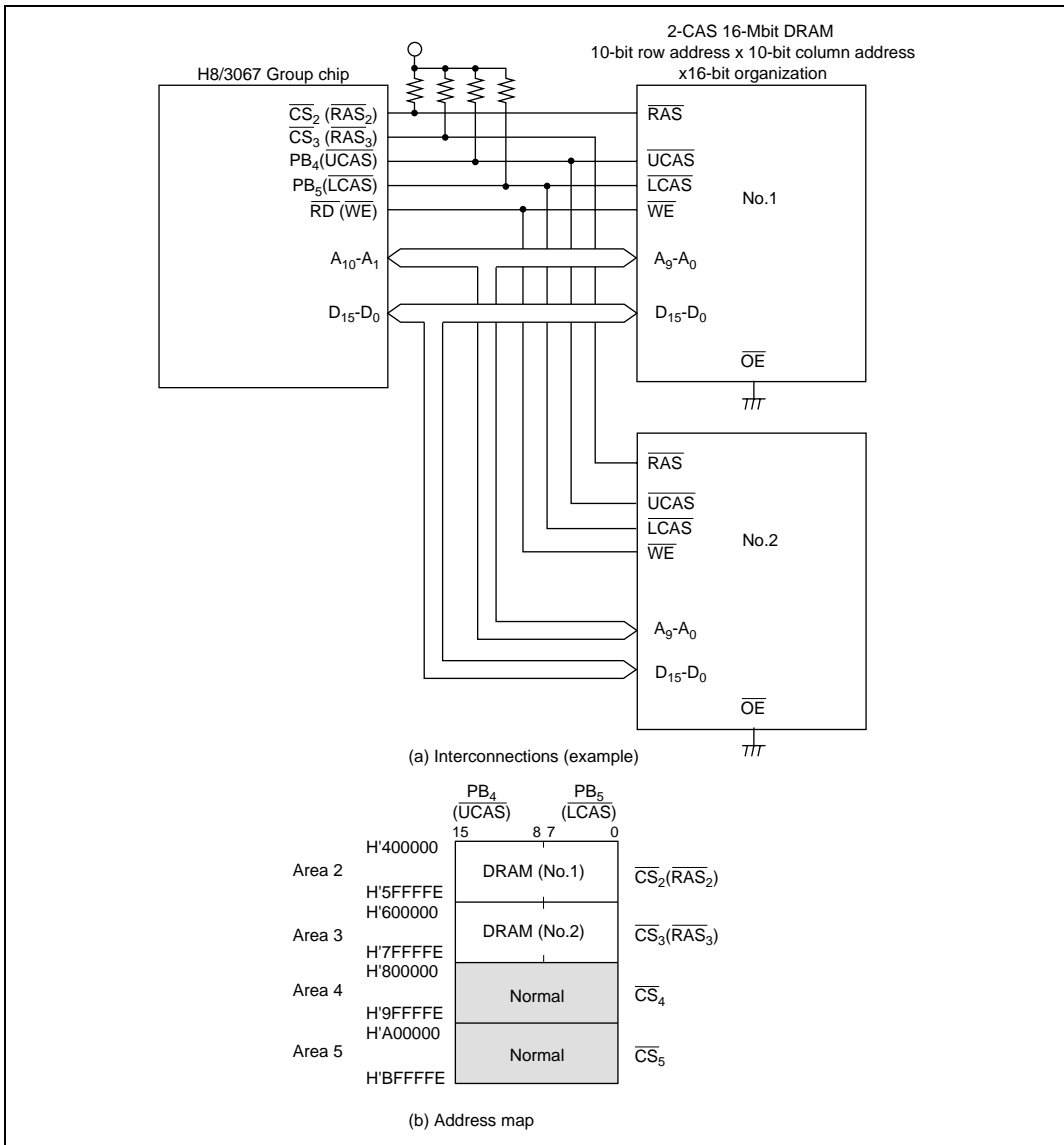

Figure 6.31 Interconnections and Address Map for 2-CAS 16-Mbit DRAMs with x16-Bit Organization
- Figure 6.31 shows typical interconnections when using two 2-CAS type 16-Mbit DRAMs using a $\times 16$ -bit organization, and the corresponding address map. The DRAMs used in this example are of the 10-bit row address \times 10-bit column address type. Up to four DRAMs can be connected by designating areas 2 to 5 as DRAM space.